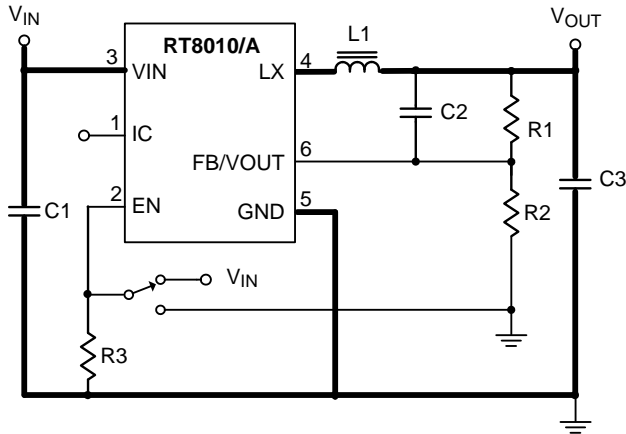

Figure 6. EVB Schematic
- ▶ For the main current paths as indicated in bold lines in Figure 6, keep their traces short and wide.